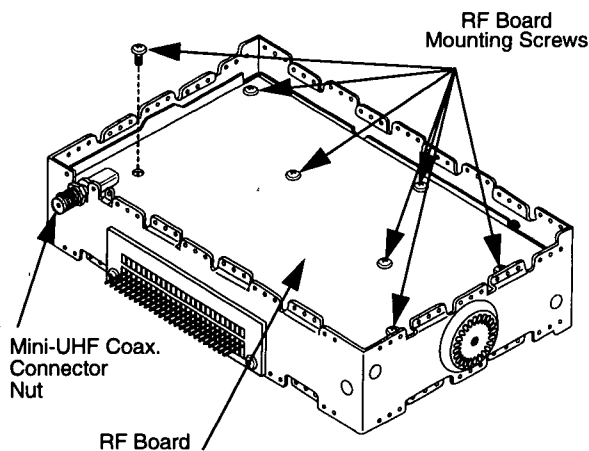

Figure 1-5.
2. Loosen the Mini-UHF coax. connector nut on the front of the transceiver using a 1/2" Hex nut driver, and lift out the RF board (Figure 1-5).